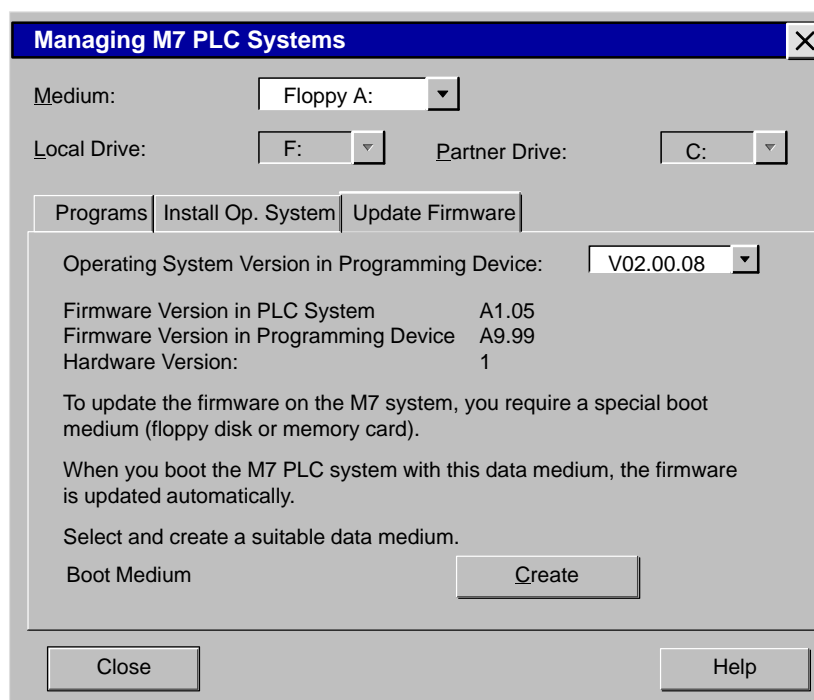

Figure 19-2 “Update Firmware” Tab
3. Open the “Update Firmware” tab (see Figure 19-2).